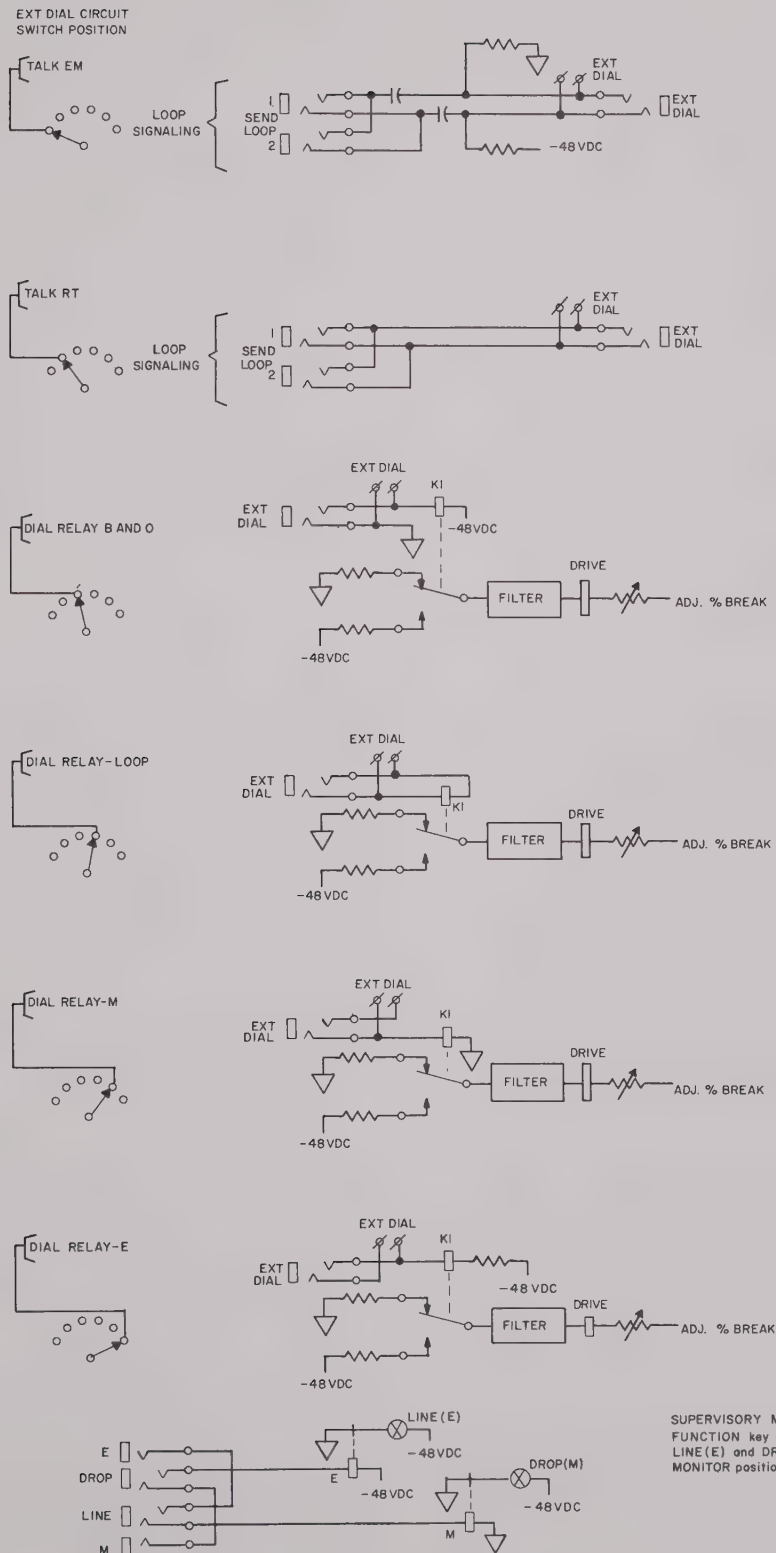

Figure 3-4 SUPERVISORY MONITOR CIRCUITS
4.26 The following functions are provided for each of the DIAL RELAY positions of the EXT DIAL CIRCUIT switch. A simplified schematic of these circuits is shown in fig. 3.4.